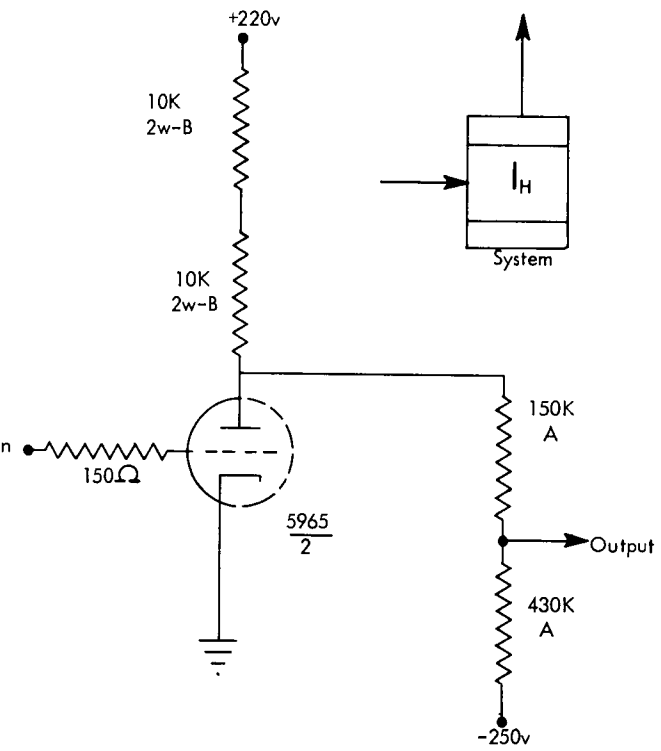

FIGURE B9. INVERTER (I_H)
The special circuits I_H and PCF_A are used to supply driving voltage of opposite polarities to the circuits feeding opposite ends of the moving clutch coil. The I_H (Figure B9) is designed so that a 40v signal produces a swing of about 140 volts at the plate. The input divider is provided for two purposes: (1) for dividing the two sets of input voltages so that the tube is cut off for the more negative voltages of each set, and conducts for the more positive voltages of each set, and (2) to provide grid current limiting for the upper level voltages. With the tube removed, the divider tends to produce voltages of about -94 volts for +10v input, +60 volts for +150v input and -250 volts for a floating input. The equivalent plate circuit is 24K returned to about +83 volts. The large resistance in the plate circuit is used to provide a large plate swing.